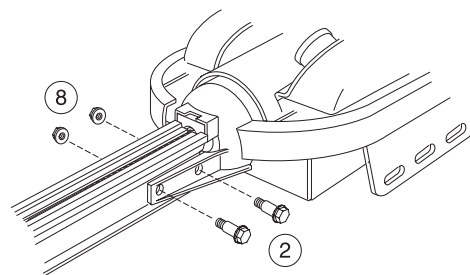

Figure 10 Bolt 1st Rail Section to Power Head
- C** Connect first Rail Section to Opener Power Head. Connect with 2 (1/4"-20) (**yellow**) Hex Head Shoulder Bolts and 2 (1/4"-20) Hex Serrated Flange Nuts (**Figure 10**). **Finger-tighten until later.**